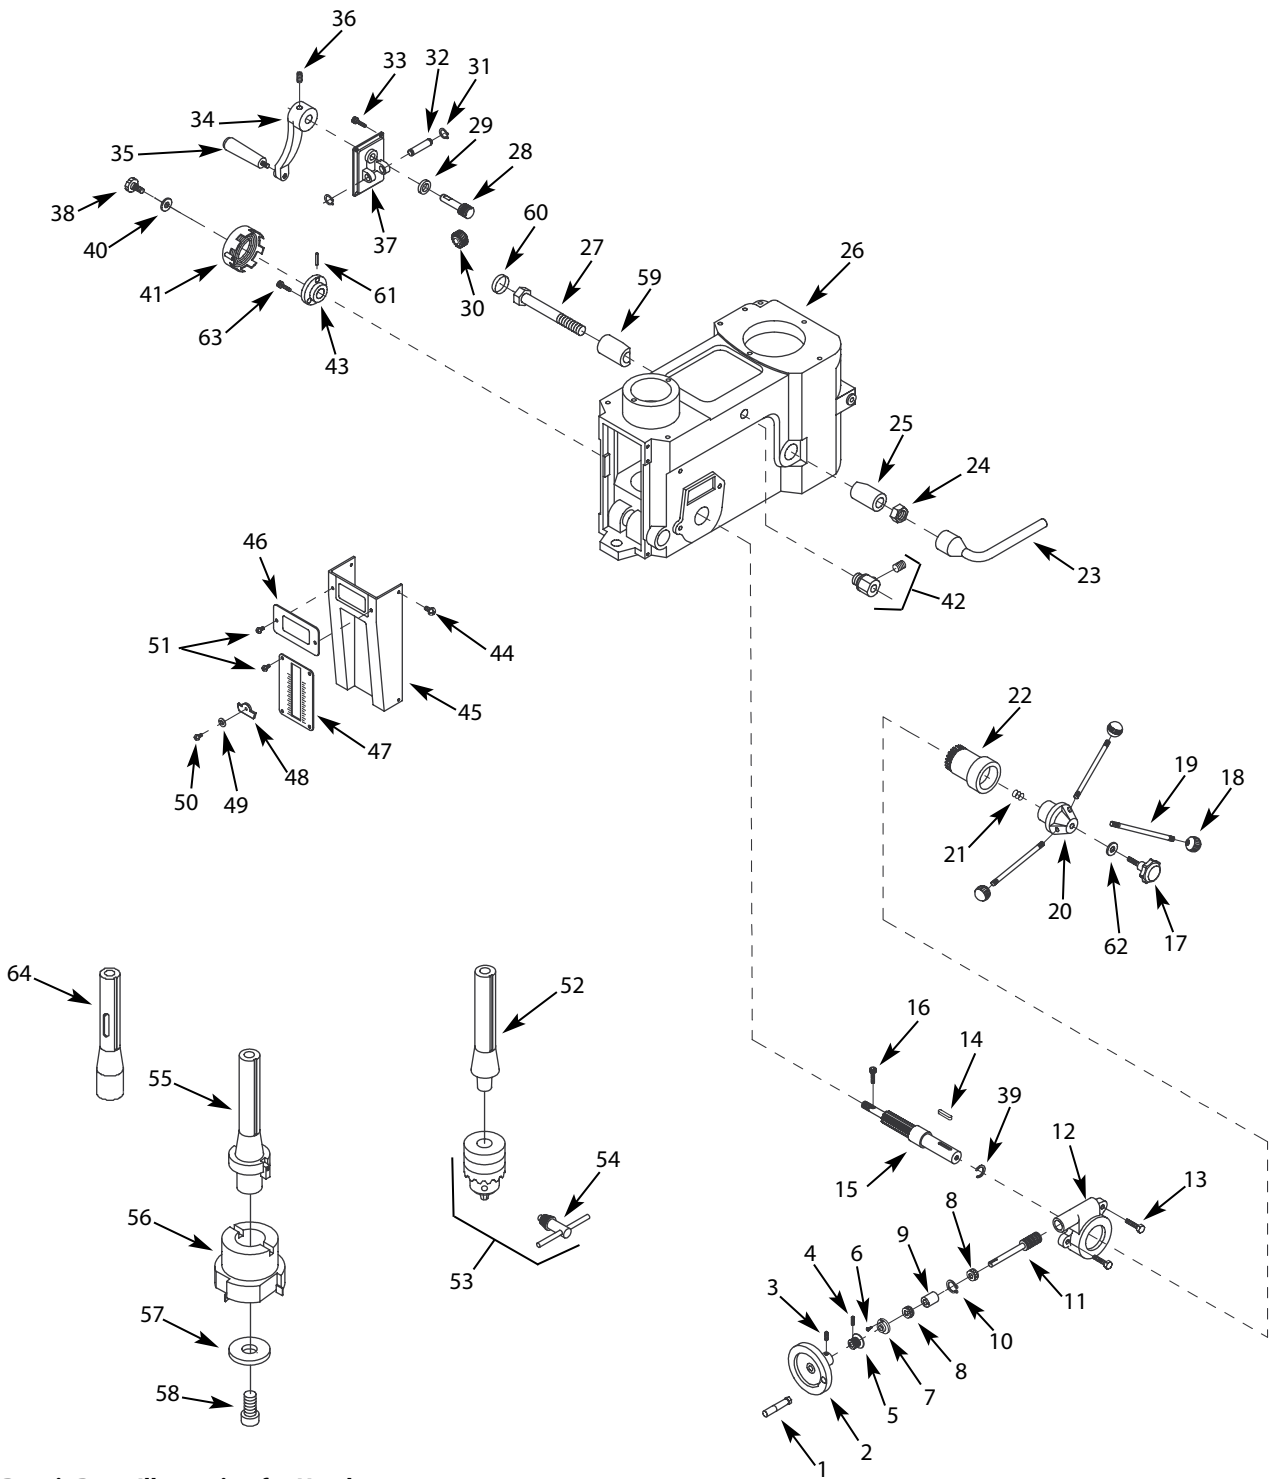
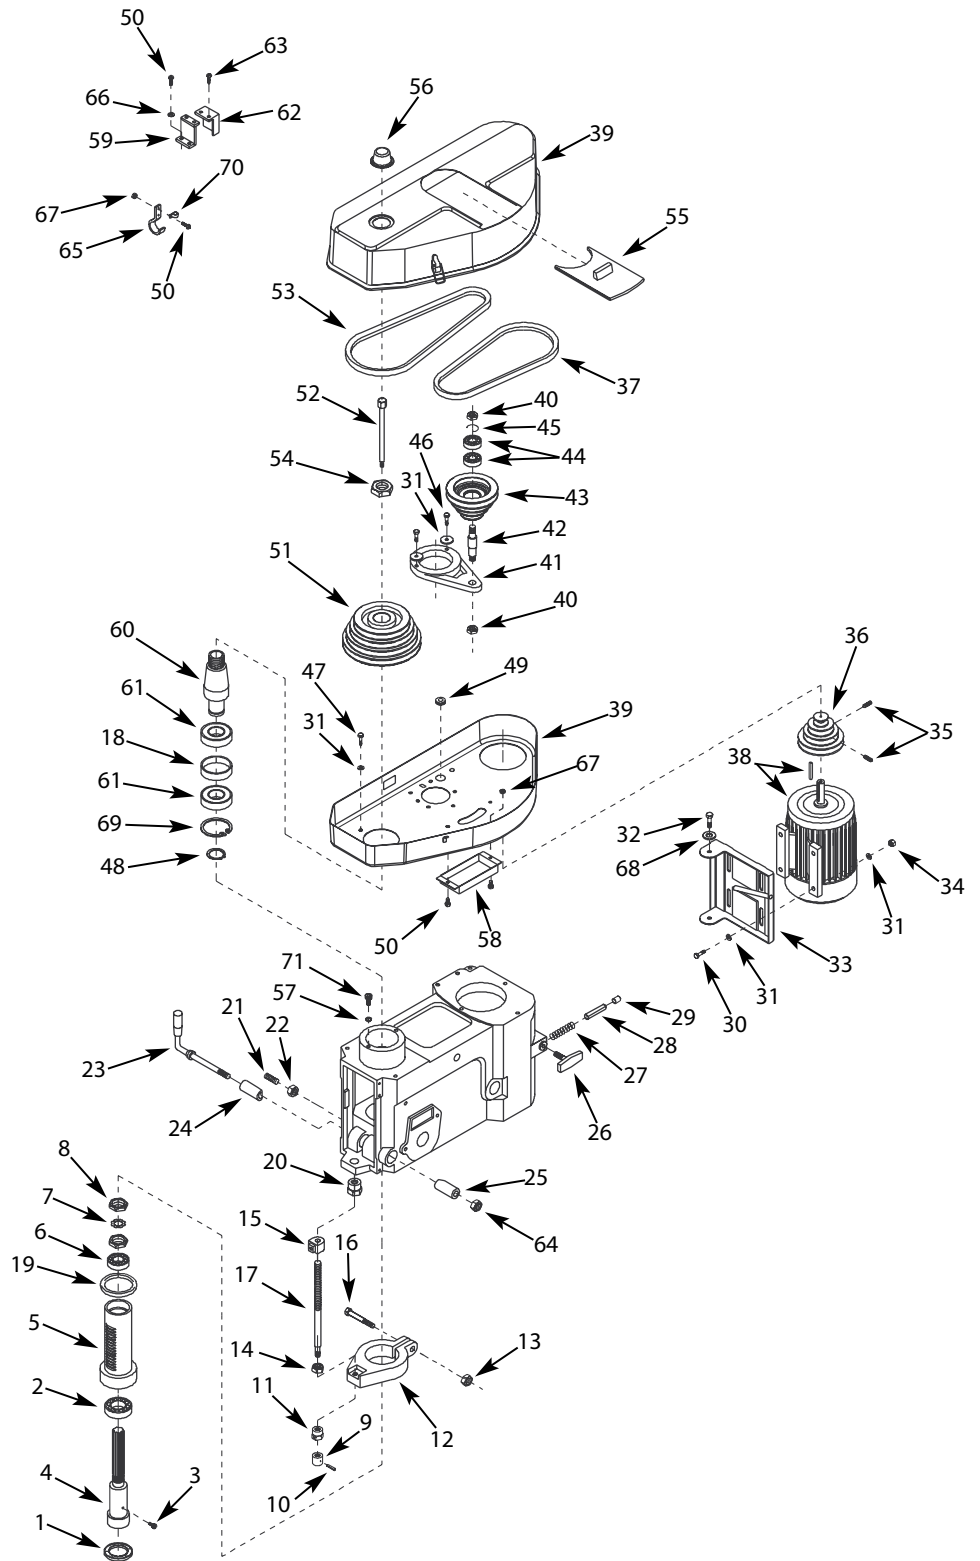
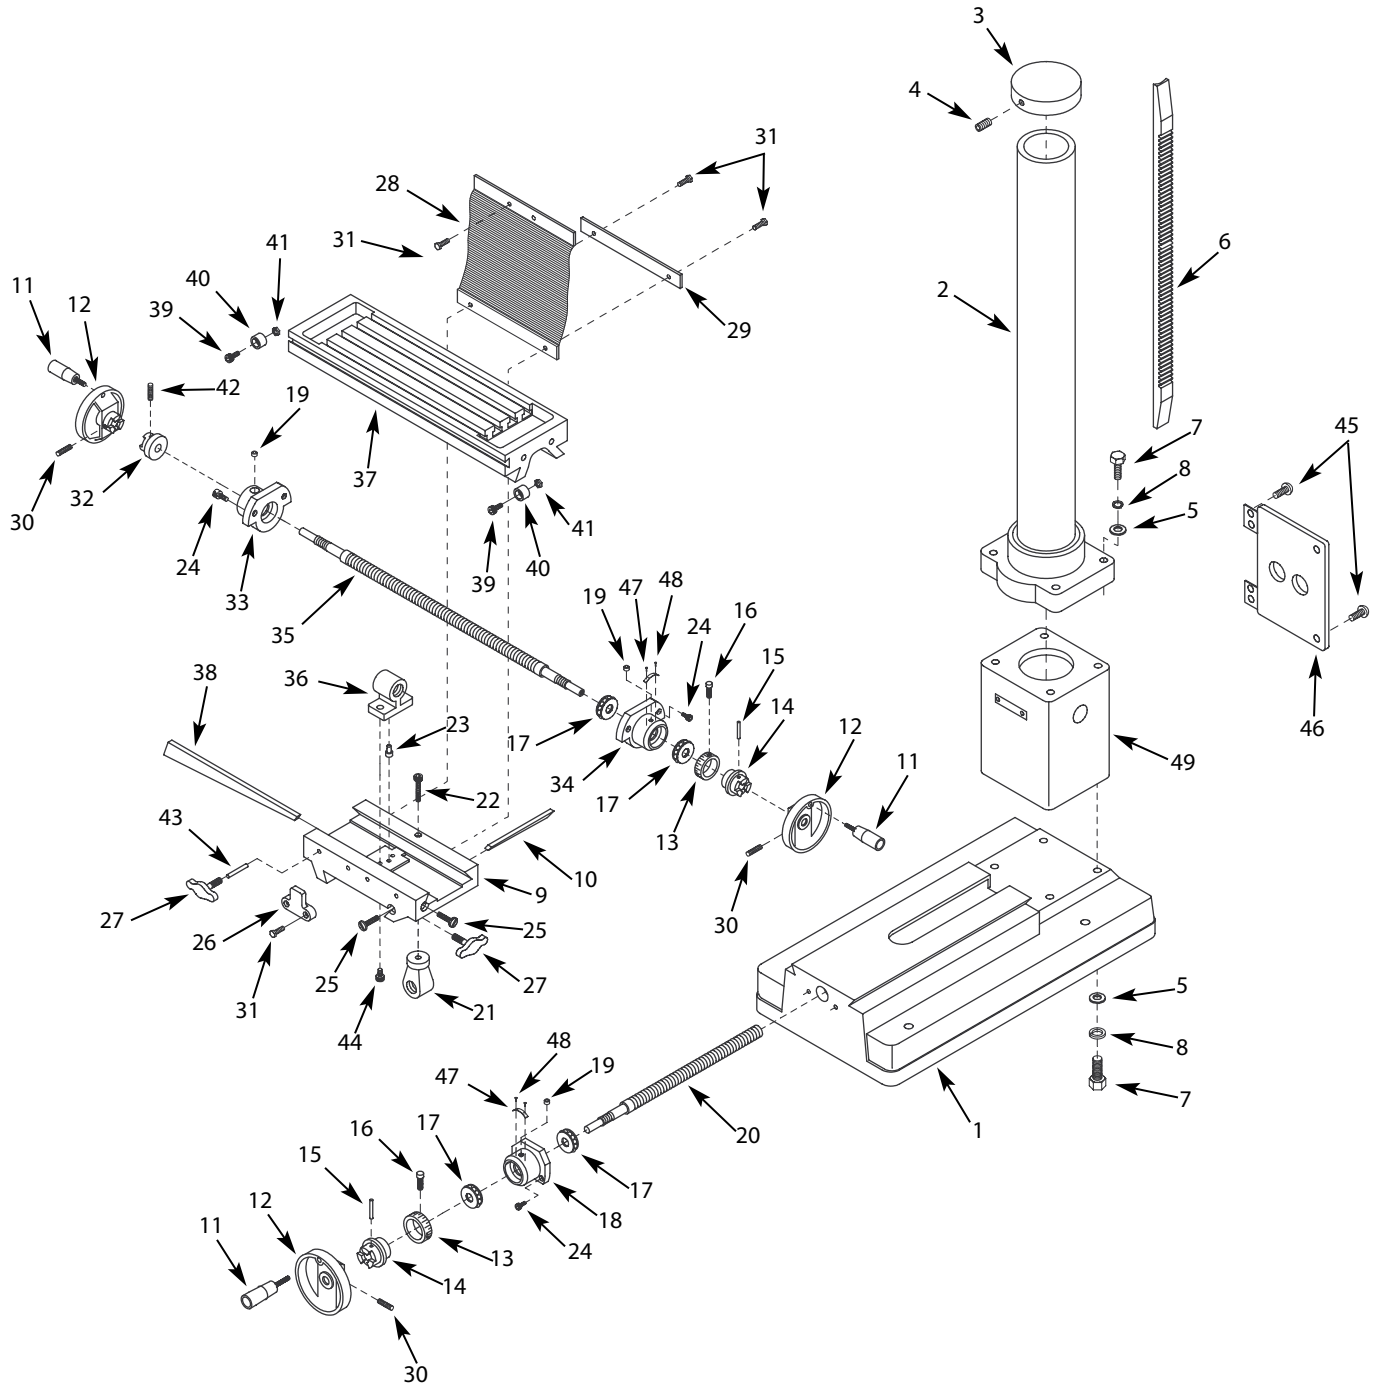

Figure 6 – Repair Parts Illustration for Head
Figure 7 – Repair Parts Illustration for Head
Figure 8 – Repair Parts Illustration for Base
Refer to Figures 6 and 7.
Engage fine feed handwheel (Figure 6, Ref. No. 2) by rotating pinion knob clockwise (Figure 6, Ref. No. 17) until tight. Disengage fine feed by loosening pinion knob.
Repeated operations where depth of cut is consistent are made easier by using depth scale (Figure 6, Ref. No. 47) and depth setting knob (Figure 7, Ref. No. 9).
Depth of cut is shown on depth scale and indicated by depth indicator (Figure 6, Ref. No. 48).
Refer to Figure 6 and 7.
To replace return spring, push spindle to fully up position and lock it in place by tightening quill lock handle (Figure 7, Ref. No. 23).
Loosen spring cover knob (Figure 6, Ref. No. 38) slowly and carefully rotate spring and cover clockwise to relax spring tension.
Remove spring cover knob and washer (Figure 6, Ref. No. 38 and 40). When tension is released, rotate spring and cover clockwise to release spring from mounting screw.
Test spring tension by pulling down on crank handle (Figure 6, Ref. No. 19). Adjust spring tension as needed.
Overtightening spring causes quill to return with excessive force damaging quill and rubber bumper (Figure 7, Ref. Nos. 5 and 19).
Refer to Figures 6, 7 and 8.
- Apply five to six drops of oil on splines at the top of spindle (Figure 7, Ref. No. 4).
- Oil cross feed lead screw (Figure 8, Ref. No. 20).
- Oil handwheel bearings through oil fittings (Figure 8, Ref. No. 19).
- Oil gear rack on back of quill where pinion shaft (Figure 6, Ref. No. 15) engages quill (Figure 7, Ref. No. 5).
- Oil depth stop lead screw (Figure 7, Ref. No. 17).
- Apply bearing grease to rack (Figure 8, Ref. No. 6) and pinion shaft (Figure 6, Ref. No. 15). Remove pinion knob and handle base (Figure 6, Ref. Nos. 17 and 20) to expose pinion shaft.
- Grease longitudinal lead screw (Figure 8, Ref. No. 35).